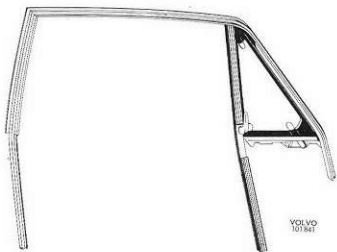

Fig. 8-18. Door frame
3. After the rubber strip round the quarter window has been removed from the groove all round the window with strip can be taken off, see Fig. 8-18.